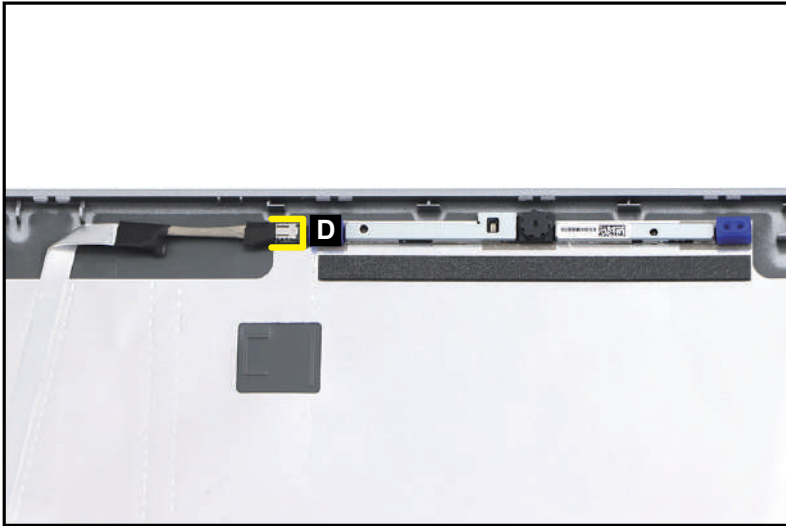

Figure 3-92. Replacing the Camera Module
3. Connect the LCD cable to the camera module connector (D) (Figure 3-92).